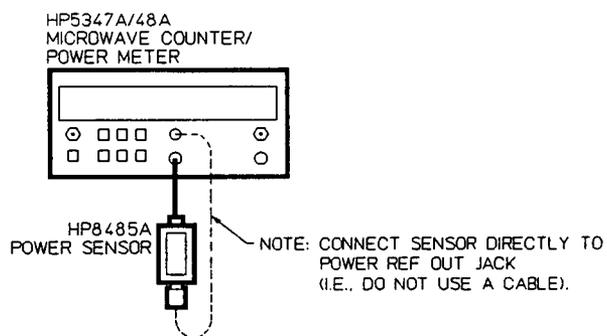

Figure 4-4. Power Meter Mode Verification Test Setup
2. Connect the equipment as shown in *Figure 4-4*.